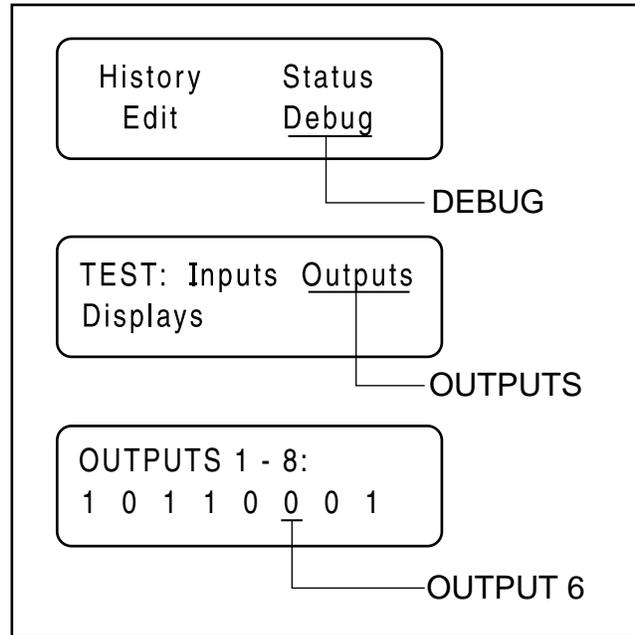

Figure 6. The Home Page, Debug and Output Screens
- f. Digital Output 6 is Wire 56 output from the board. Refer to Figure 6.